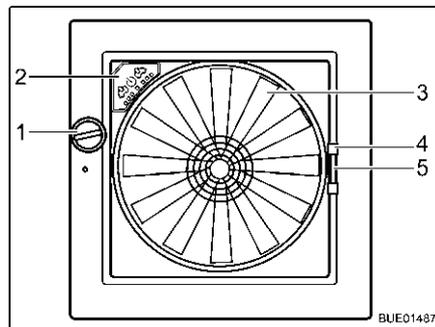

Fig. 71 Skylight Omni-Vent
Opening: ■ Turn the knob (Fig. 71,1) until the desired opening angle is reached.
Closing: ■ Turn the knob (Fig. 71,1) until the skylight is fully closed.
Closing: ■ Using the handle (Fig. 71,4) pull the insect screen across to the other side of the frame.
- Press together the handle (Fig. 71,5) of the shade.
Fan If the skylight is open, the interior can be ventilated with the 6-speed fan (Fig. 71,3). The fan is operated via the operating panel (Fig. 71,2).